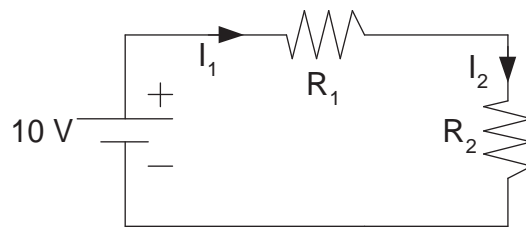

Figure 4.5: Two resistors connected in a series circuit.
4. Prepare the circuit shown in Fig. 4.5. *Have the circuit checked by the instructor before turning on any power.*
3. For the series circuit, Fig. 4.5, does Eq. (4.4) hold within the accuracy of the meters? Explain.